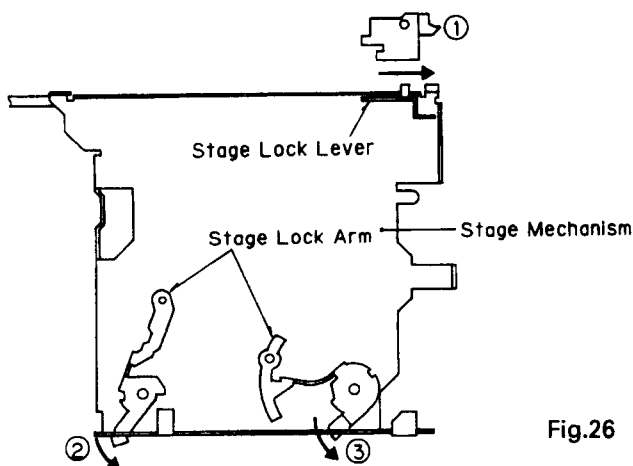

Fig.26
Looseness in the elevator mechanism is eliminated and vibration resistance is enhanced by locking the three (① ② ③) locations shown in fig. 26.